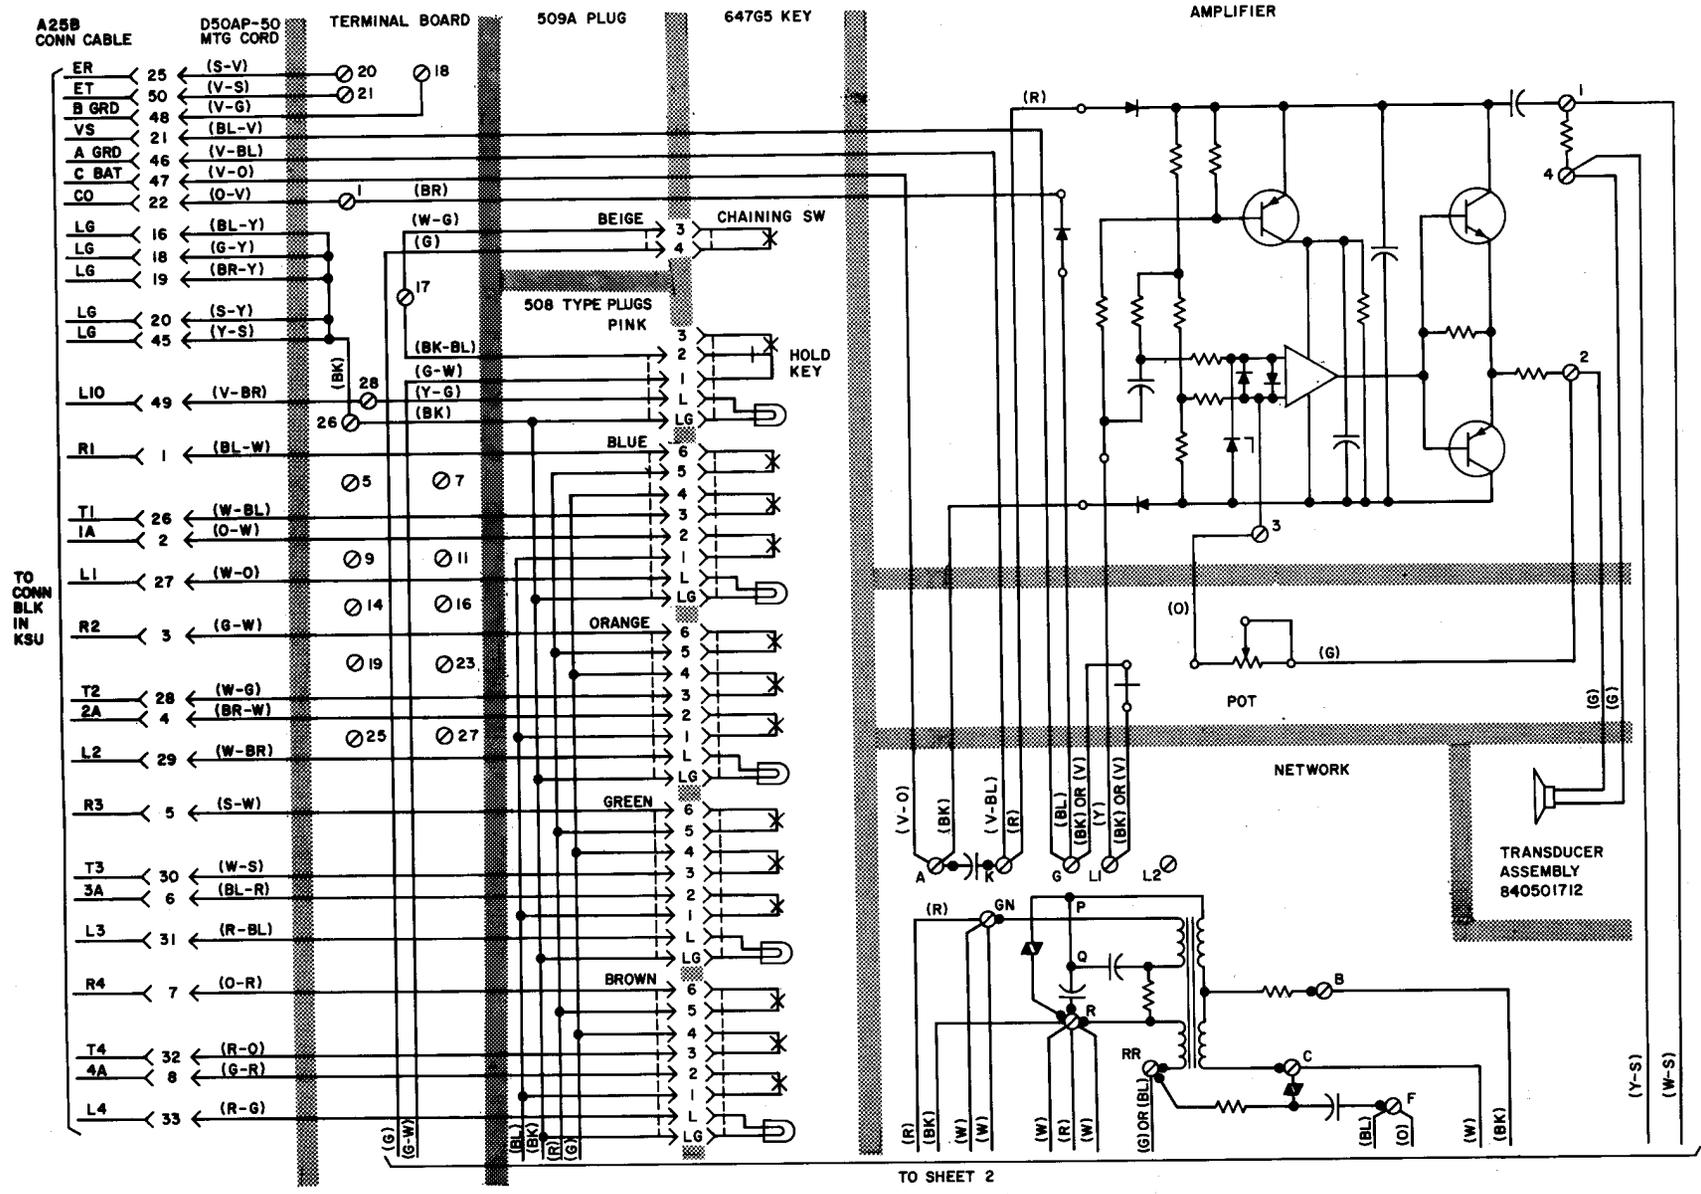

Fig. 7—832A (MD) Telephone Set, Connections (Sheet 1 of 2)
**3.10** Refer to Fig. 7 through 16 for telephone set schematics.